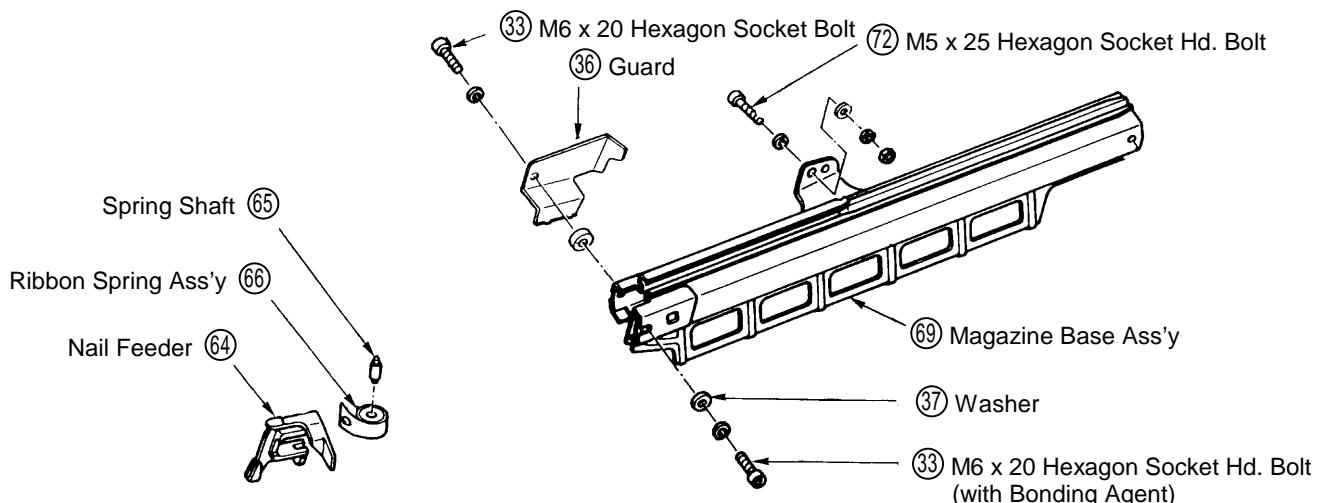

Fig. 15 Disassembly / Reassembly of the Magazine Section
- Shift the Nail Feeder ⑥4 to the Tail Cover ③8 side in a state where it is held by the Ribbon Spring Ass'y ⑥6.
- Remove the two M5 x 25 Hexagon Socket Hd. Bolts ⑦2 and the M6 x 20 Hexagon Socket Hd. Bolt ③3 on the Guard ③6 side.
- Loosen the front-side M6 x 20 Hexagon Socket Hd. Bolt ③3 (opposite from the Guard ③6 side), and withdraw the Magazine Base Ass'y ⑥9 from the Tail Cover ③8. The Magazine Ass'y ⑧1, Ribbon Spring Ass'y ⑥6 and related parts can then be disassembled (see Fig. 15).